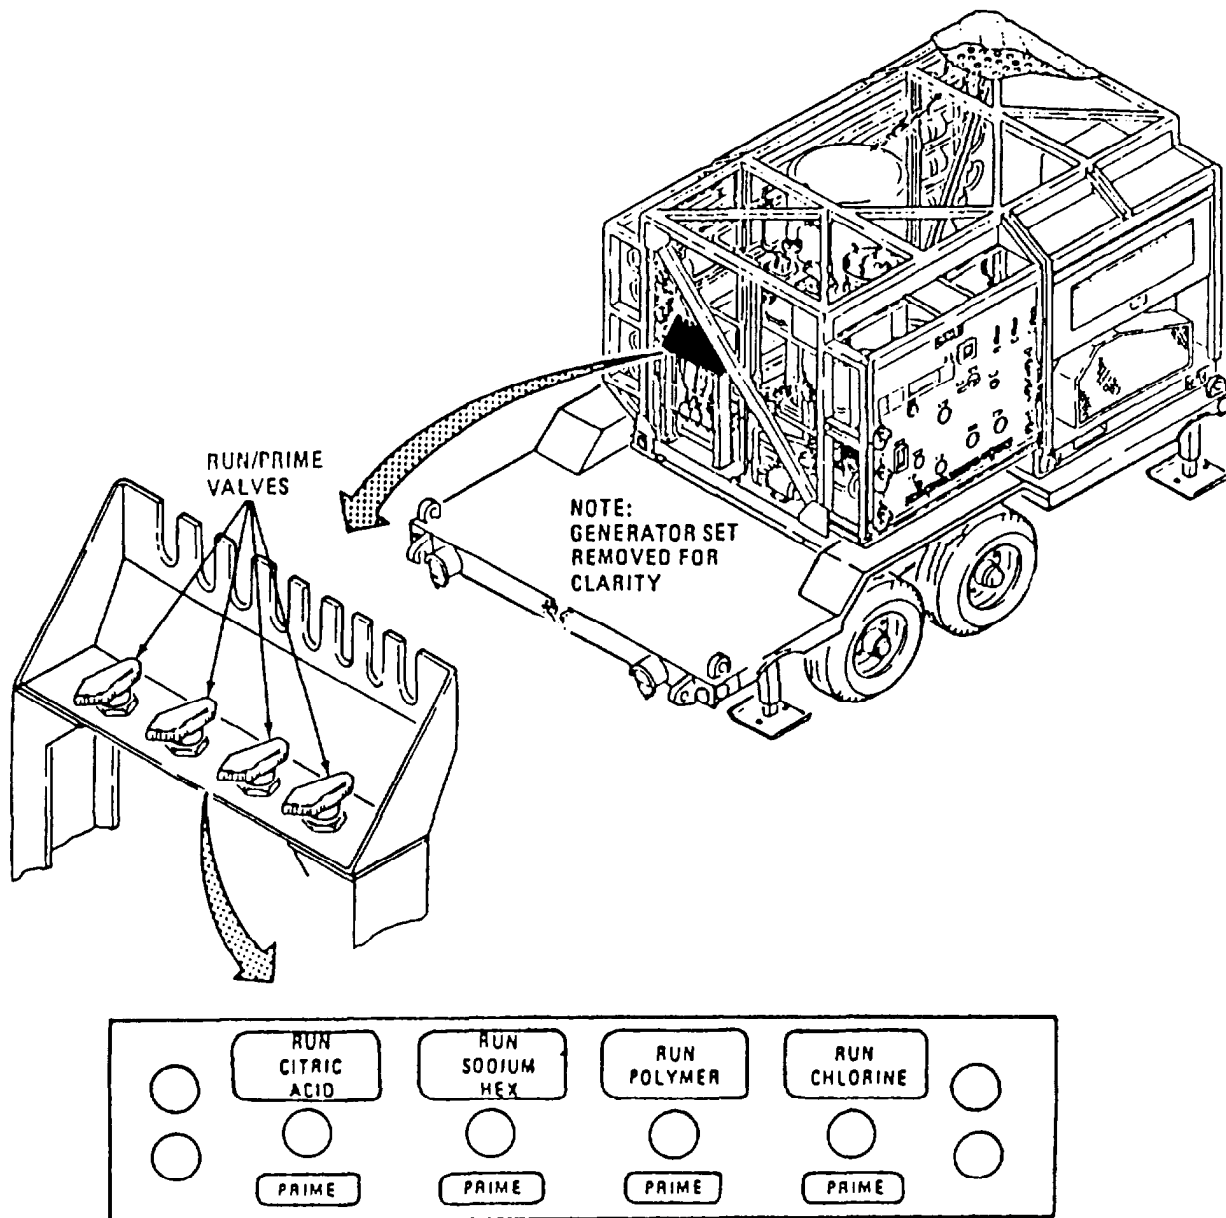

Figure 2-11. Chemical Feed Run/Prime Valves.
- j. Chemical Feed Run/Prime Valves. Refer to figure 2-11. The valves have two positions: PRIME and RUN. PRIME is used during startup for priming the chemical feed pump. The valves are set to RUN during normal operation.